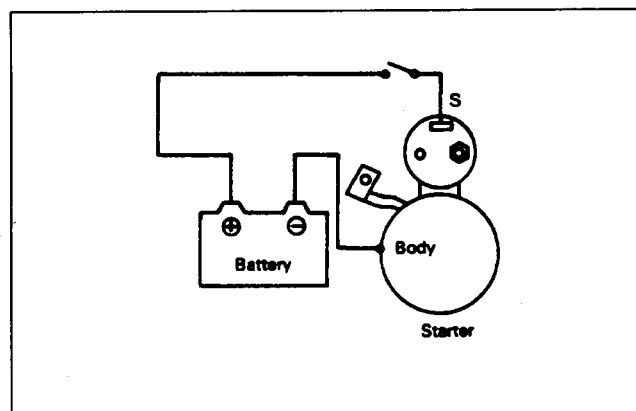

Figure 28
1. Disconnect the wire from terminal "M" (Fig. 28).